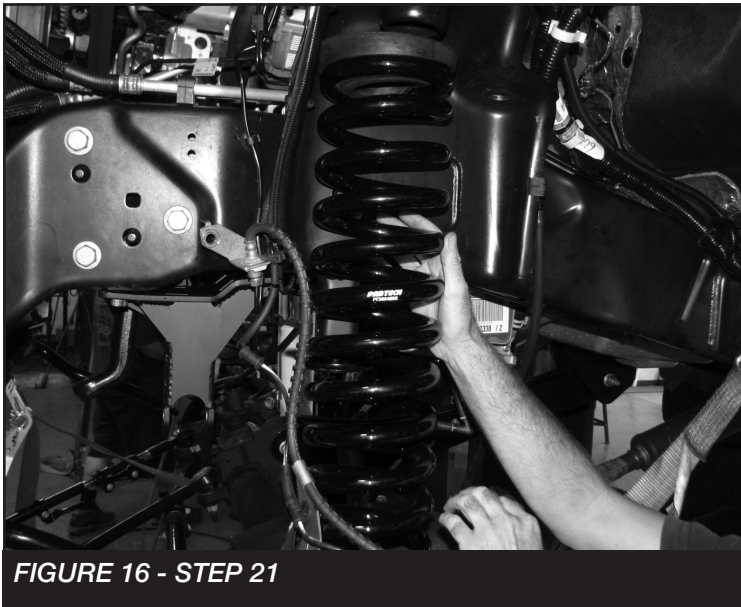

FIGURE 16 - STEP 21
21. Install FT30648 (Coil Spring) using the factory upper isolator. **SEE FIGURE 16**